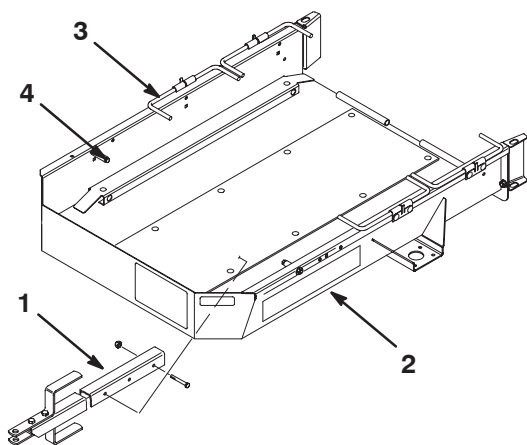

Figure 1
1. Mount tongue assembly to mounting bracket on underside of trailer bed with (2) 3/8-16 x 2-3/4" lg. capscrews, spacers, and lock nuts. For most applications, use front set of mounting holes in tongue and bracket (Fig. 1).
3. Remove baskets from greens mower, disengage reel drive and move throttle to slowest position. **SLOWLY** drive greens mower onto trailer until trailer stops are contacted (Fig. 1).
5. Pivot wheel rods downward over greens mower transport wheels (Fig. 1).